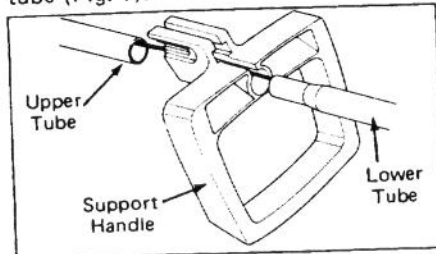

Figure 1
2. Slide support handle over open internal wiring and position on upper tube (Fig. 1).